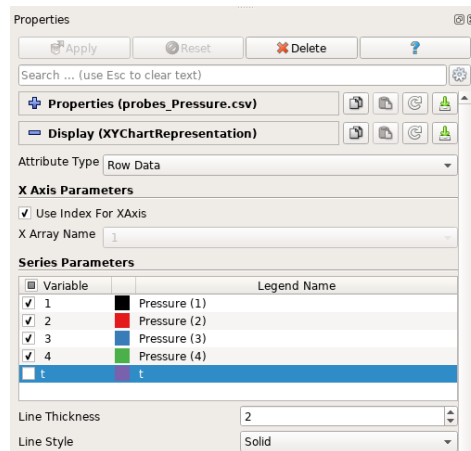

Figure III.47: Specifying the line plot's legend.
Click on the **Line Chart View** button and prepare the line plots, starting with the pressure data. Make the data visible for that file by clicking on the eye symbol  next to the file name in the **Pipeline Browser**. Go to the **Display** tab and set **Attribute Type** to **Row Data**. In the **Series Parameters** category, unselect the **time** variable. The variables **1**, **2**, **3**, and **4**, representing the pressure at each iteration at the four monitoring points you specified should be selected and the graphs of their evolution as a function of the number of iterations (time steps) should now be displayed in the view window. For clarity, change the legend for each variable. In the **Series Parameters** category, left-click on the row for variable **1** to select it. Double left-click on the name of that variable, in the **Legend Name** column to edit it. Change the name of each variable to **Pressure (1)**, **Pressure (2)**, **Pressure (3)** and **Pressure (4)** (Figure III.47 and III.48).